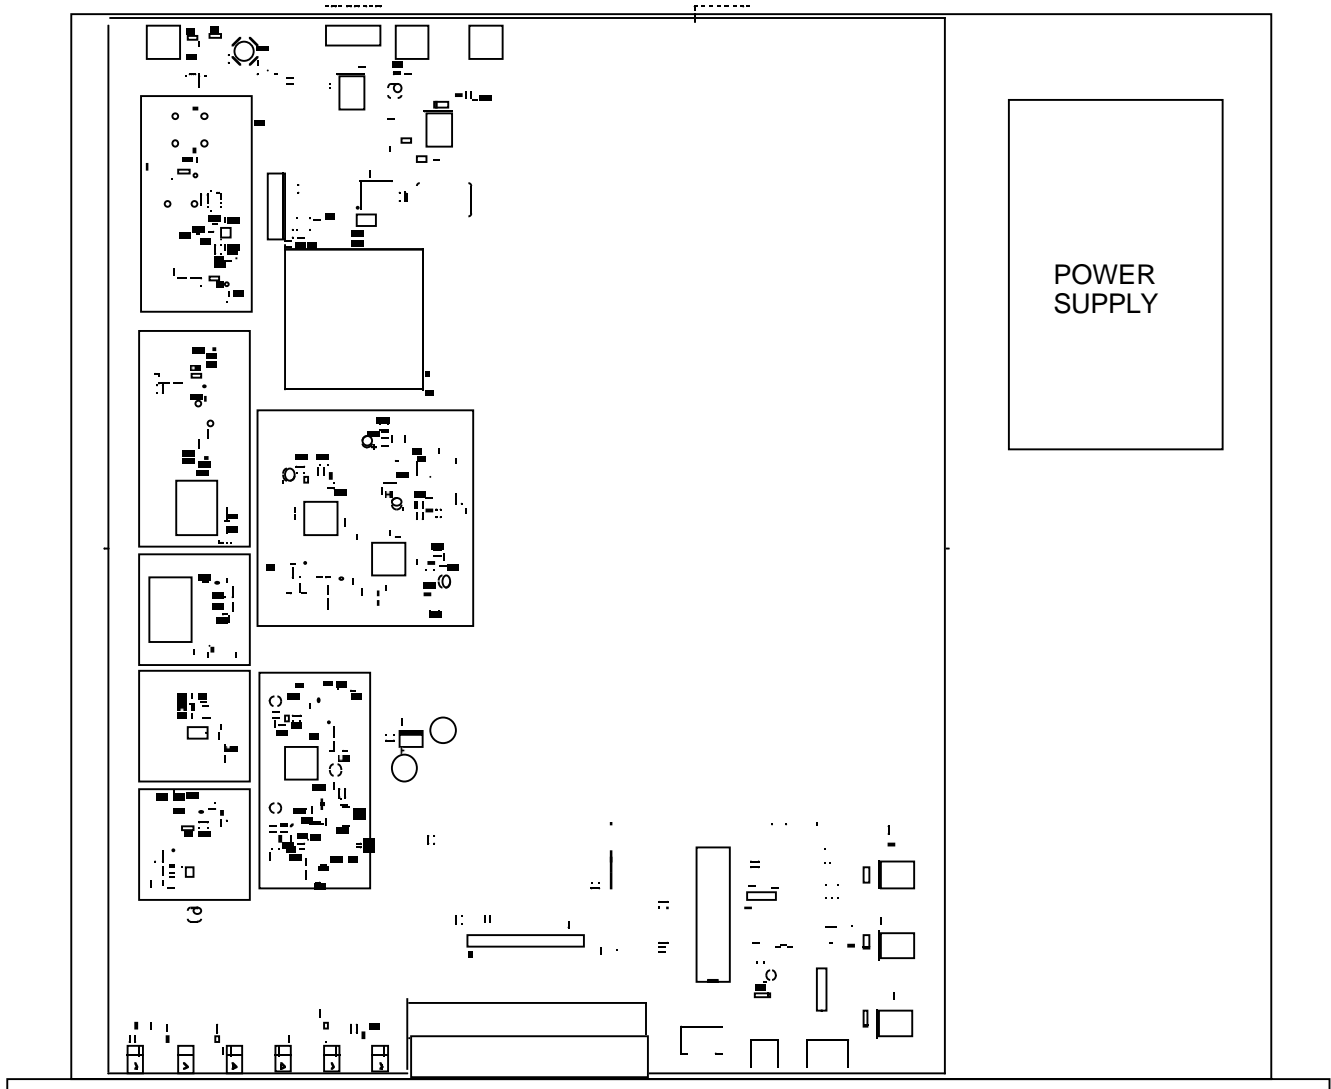

FIGURE 2.0 2015-04 Mechanical Assembly
2.1 Mechanical - The 2015-04 consists of one RF/Controller PCB housed in a 1 RU (1 3/4 inch high) by 16 inch deep chassis. A switching, ± 12 , $+24$, $+5$ VDC power supply provides power for the assemblies. The 2015-04 can be secured to a rack using the 4 holes on the front panel. Figure 2.0 shows how the 2015-04 is assembled.